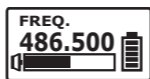

Fig. 8
4. Frequency: Display Transmitter Frequency Information, Fig. 8.
- (A) Press MODE button to access **FREQ.** to show the current frequency. Blinking will stop after 30 seconds.
- (B) Frequency is synced from receiver and cannot be changed.
- (C) To change frequency, do it on the receiver and then press ACT button on the receiver to sync.